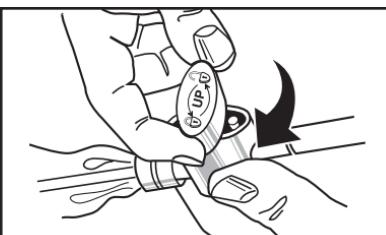

Fig. 4
5. Lift and turn thumb control valve 180 degrees to lock position (**Fig. 4**).
1. The thumb control valve can be locked to prevent inadvertent or accidental suction. To lock, lift white part of thumb control valve and rotate 180 degrees. To unlock, repeat this action (**Fig. 4**).